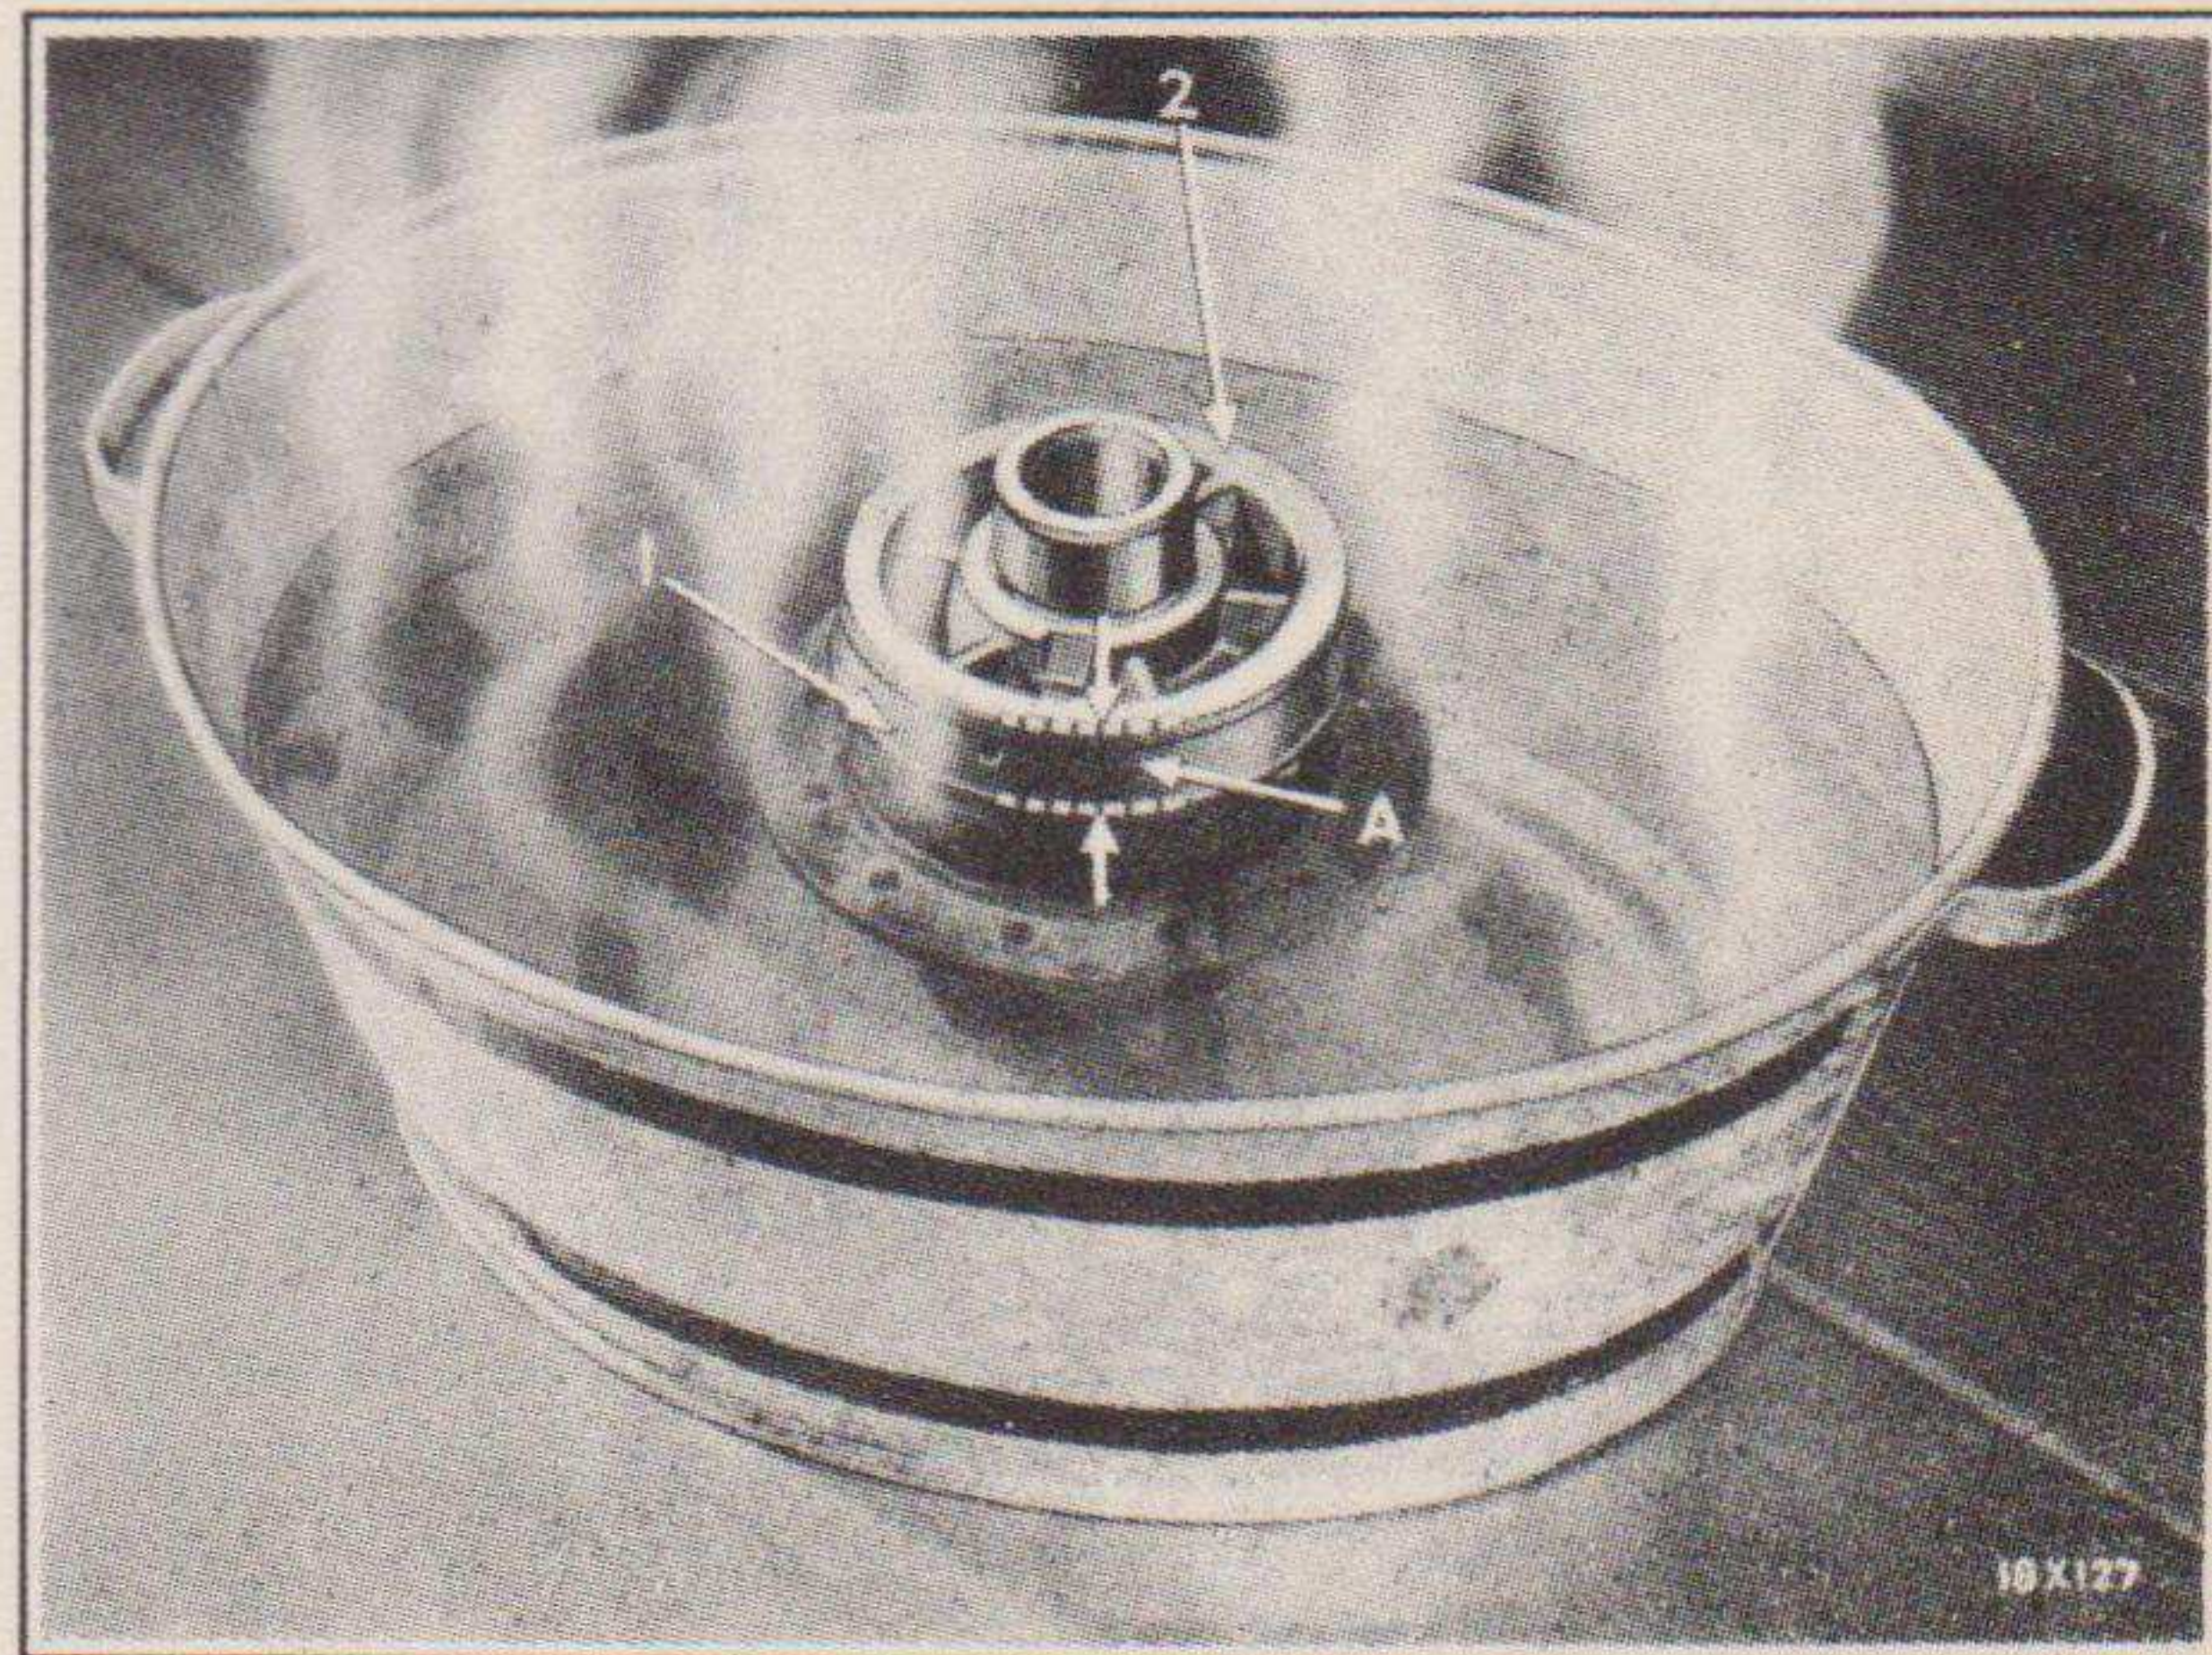

Fig. 50—Removing Differential Case Cap—Expanding the Case
- (e) Place the differential case in a pan and fill the pan with water up to a level $\frac{1}{2}$ " below the case cap. See Fig. 50. Remove the case and boil the water, then submerge the case in the boiling water in order to heat the